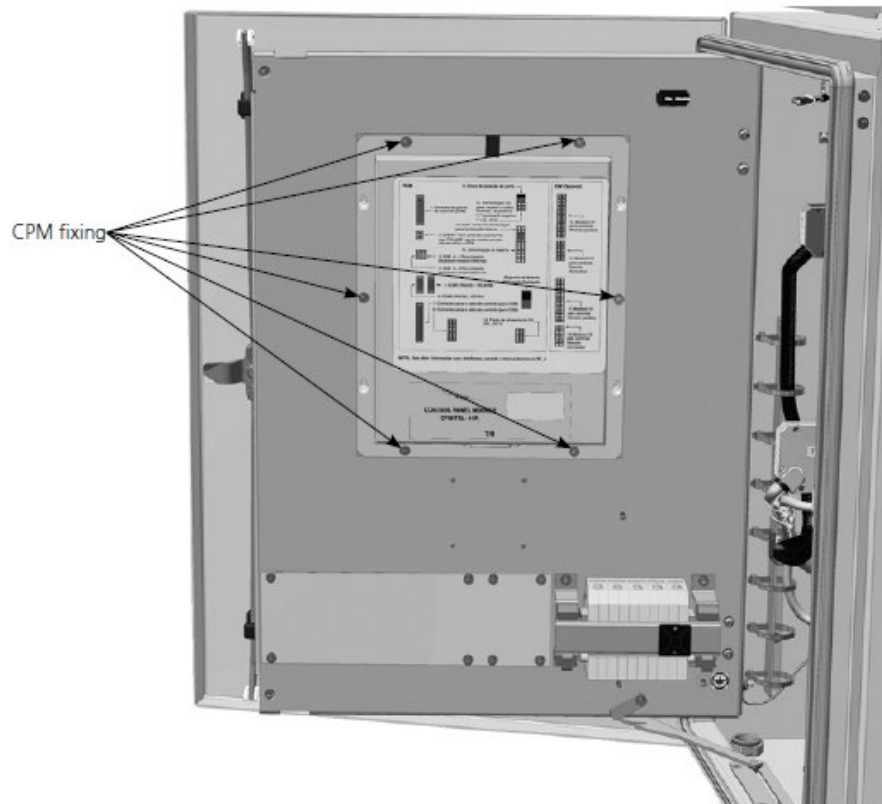

Figure 78
- 2) Unscrew six nuts fixing the CPM and remove the washers (Figure 78);